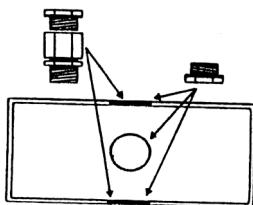

Fig 1. Cable gland positions
Refer to Fig 1.
6. Make cable entry holes in the plastic and metal boxes by removing suitable knockouts (Refer to Fig. 1).